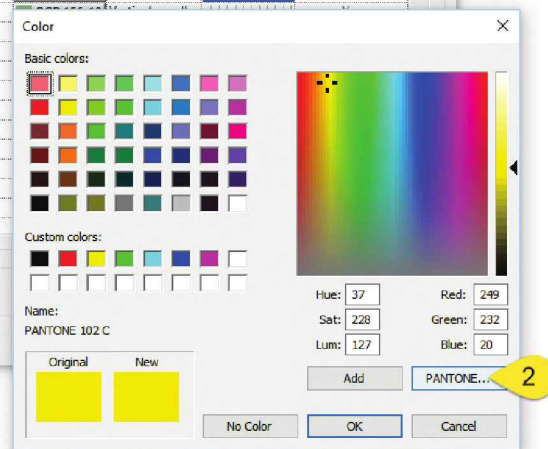

FIGURE 12-3.12 Color selector
34. Click the **PANTONE...** button to select a standard Pantone color (Figure 12-3.12).